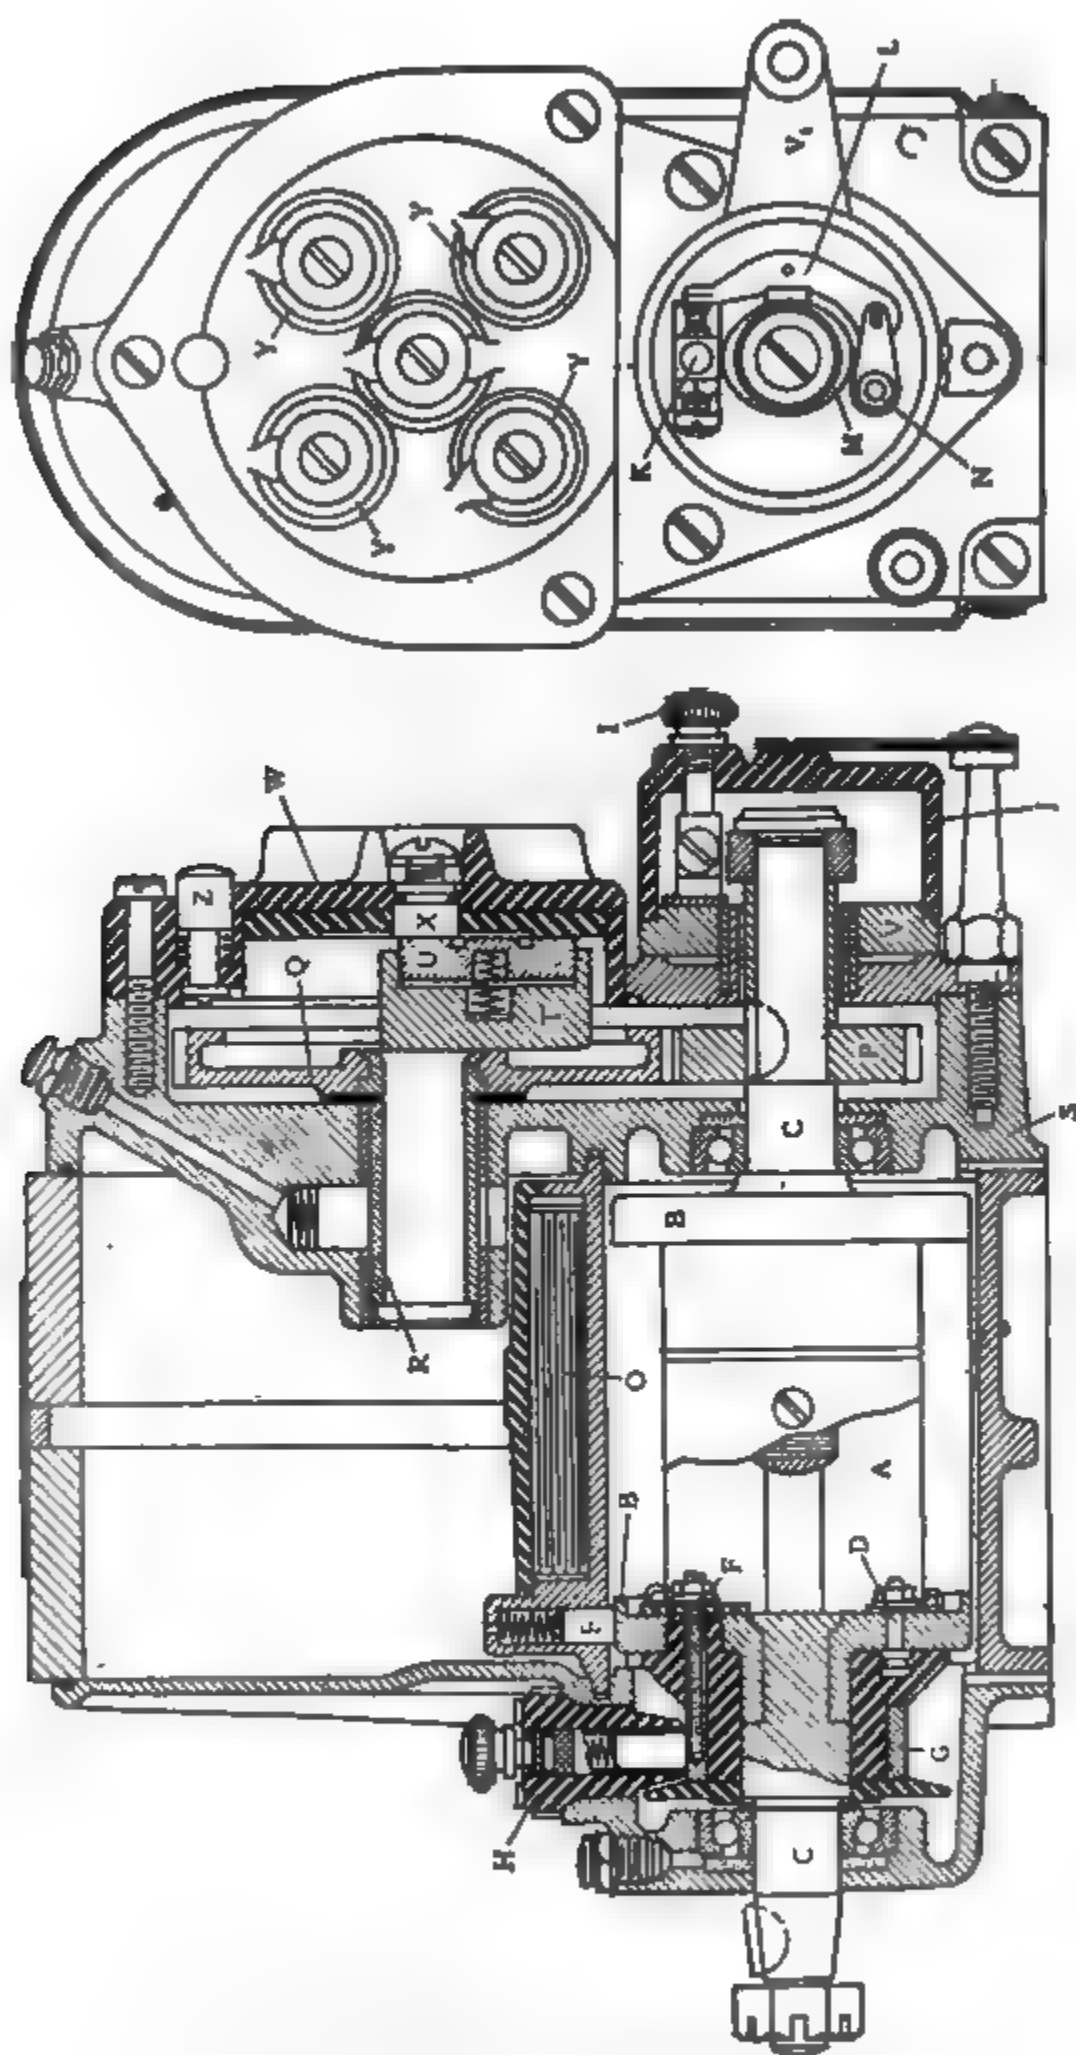

Fig. 82. Section and End Elevation of Remy Dual Type Magneto
*Remy Type.* Prior to the general adoption of electric lighting and starting systems, the dual type of ignition system was almost universally employed on the lower and medium priced cars, a number of which are still in service. The Remy magneto, a section and end elevation of which are shown in Fig. 82, is typical of the class used for this service. The armature *A* is of the *H* or shuttle type, of laminated construction fitted with cast bronze heads *B*. It carries a single winding, one end of which is grounded by connecting it to the rear bronze head at *D*, the ground connection being further insured by the carbon brush *E*, pressed against the head by a spring. The other end of the armature winding is connected through an insulated stud *F* to the collector ring *G* from which the current is taken by a carbon brush in the holder *H*. From this brush a low-tension cable runs to the induction coil mounted on the dash.
at the upper dead-center position at the beginning of the power stroke, and while the crankshaft of the engine and the armature shaft of the magneto are in these relative positions, the magnet driving gears must be meshed and the magneto gear secured on the tapered end of the armature shaft by means of a Woodruff key which is held in place by a bushing and nut, as shown in the sectional view, Fig. 82.